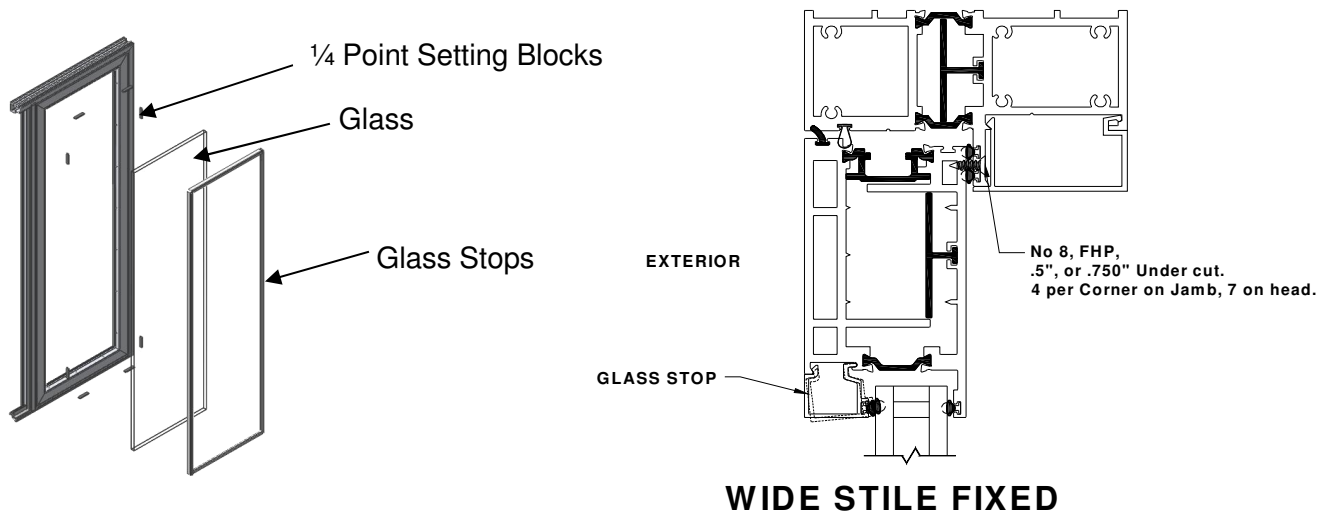

Figure 11:
- Install glass to panel frame then install glass stops (Figure 11).
- Install glass setting blocks (total 6 pcs per panel) at ¼ points into each jamb, head and sill for all four corners (Figure 11). To properly support insulated glass panes, stagger the setting blocks.